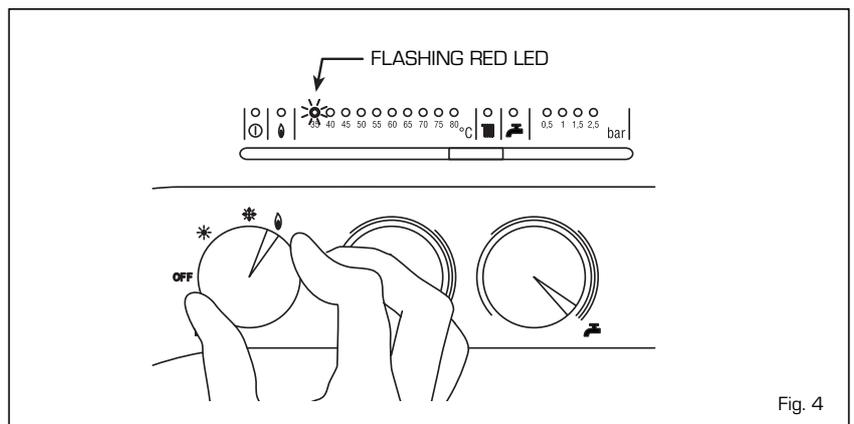

Fig. 4
- Safety stat interception (fig. 4)